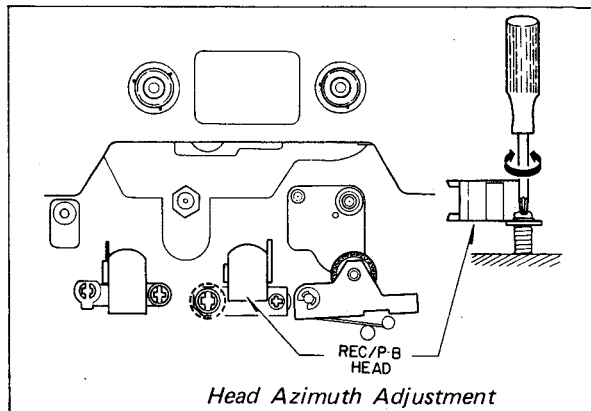

Fig. 5
5. Adjust the azimuth screw shown in Fig. 5 for maximum VTVM reading.